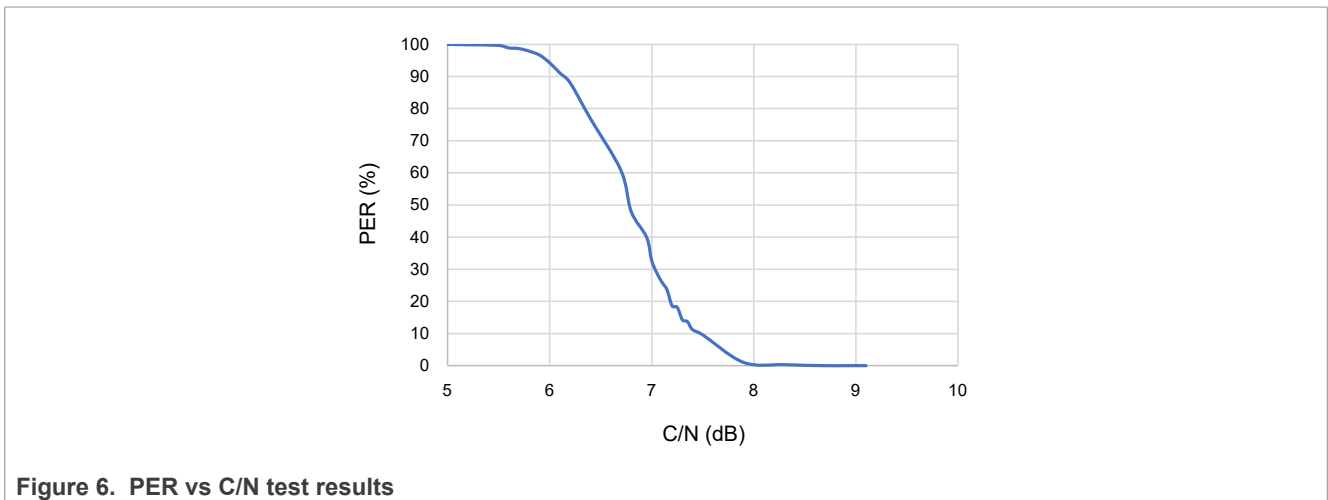

Figure 6. PER vs C/N test results
- For each channel of the desired signal, start from a C/N where PER is at 0%, then decrease it and plot the C/N and PER values, as shown in Figure 6.
Figure 6 shows the results of the PER vs C/N test where center frequency is at 2440 MHz.